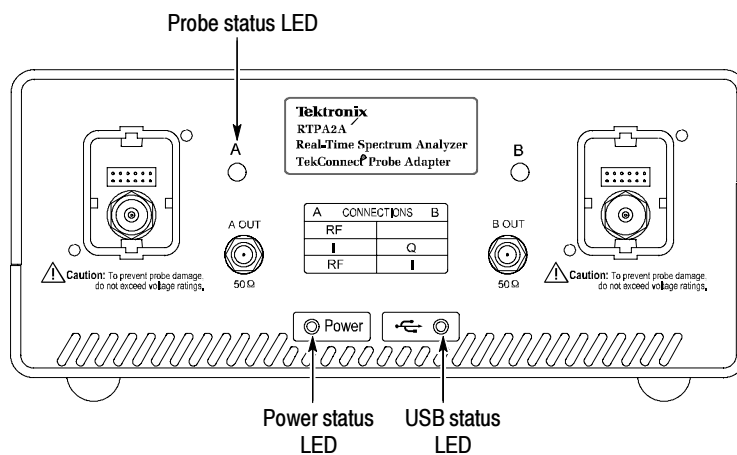

Figure 6: Check for lighted LEDs
3. On the probe adapter, visually check that the LEDs are lighted green. The LED locations are shown in Figure 6.